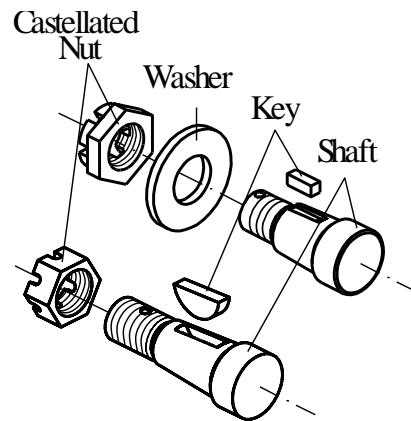

Fig.11
23. Install key in shaft key groove. For cone shafts install washer and screw castellated nut. (see Fig.11).